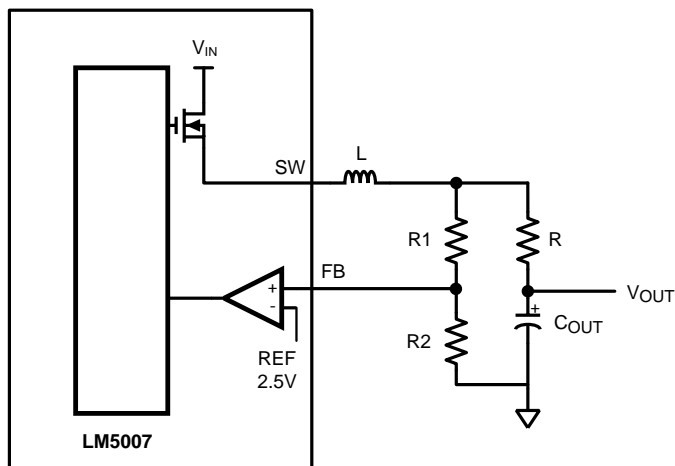

Figure 4. Low Output Ripple Voltage Configuration
The output voltage (V_{OUT}) can be programmed by two external resistors as shown in Figure 4. Calculate the output voltage setpoint using Equation 3.
For applications where lower output voltage ripple is required, the load can be connected directly to the low ESR output capacitor as shown in Figure 4. The series resistor (R) will degrade the load regulation. Another technique for enhancing the ripple voltage at FB is to place a capacitor in parallel with the upper feedback resistor, R1. The addition of this feedforward capacitor reduces the attenuation of the ripple voltage from the feedback divider.